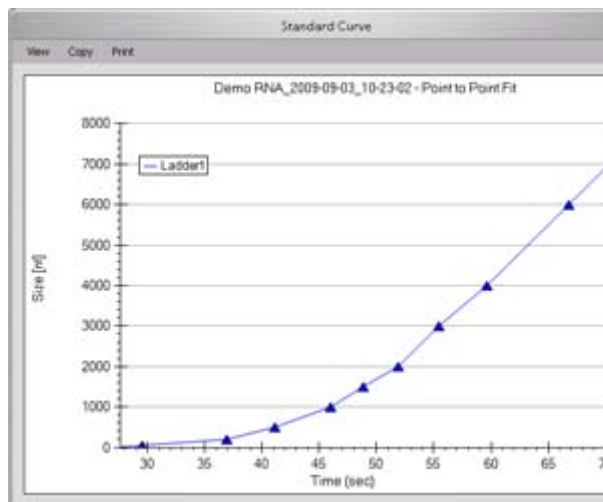

Figure 10. Standard Curve - RNA
- 6 The ladder is analyzed (see “Ladder Analysis” on page 271) and a standard curve of migration time versus RNA size is plotted from the RNA ladder by interpolation between individual RNA fragment size/migration points. The standard curve derived from the data of the ladder well should resemble Figure 10.